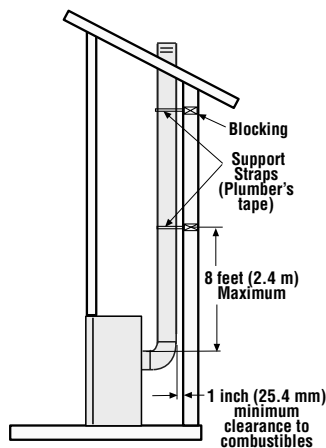

Figure 22
E. Support the vertical vent run sections - Support the vertical portion of the venting system every 8 feet (2.4m) above the fireplace vent outlet using field provided support straps (conventional plumber's tape). Secure the plumber's tape to the framing members with nails or screws. Loop the tape around the vent, securing the ends of the tape to the framing. The tape must not be secured directly with a fastener into the vent pipe. See **Figure 22**.
On the vertical run, support the venting system every 8 feet (2.4m) above the fireplace vent outlet with field provided support straps (Plumber's tape). Attach the straps to the vent pipe and secure to the framing members with nails or screws. See **Figure 22 on page 12**.